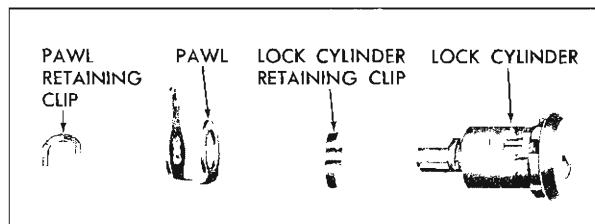

Fig. 3-19 Front Door Lock Cylinder
- Remove pawl retaining clip, pawl and lock cylinder retaining clip (Figure 3-19).